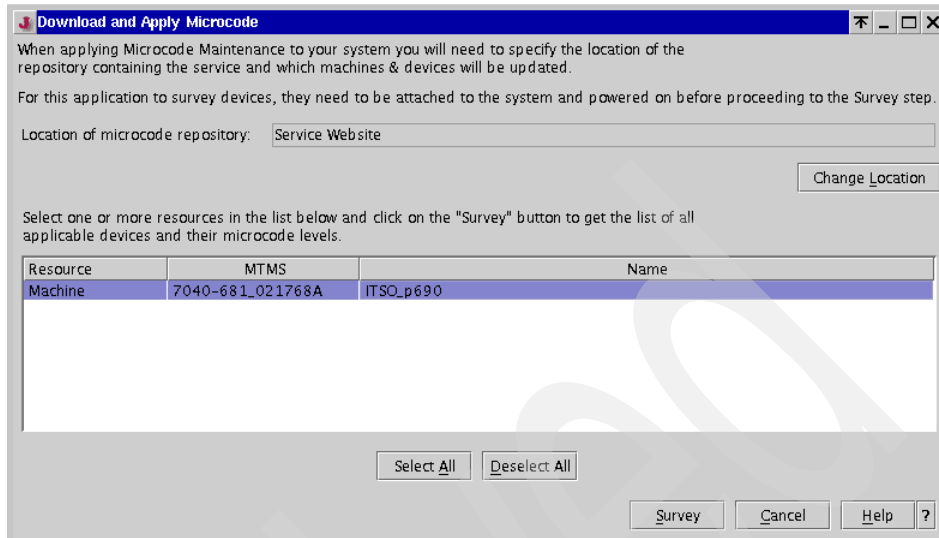
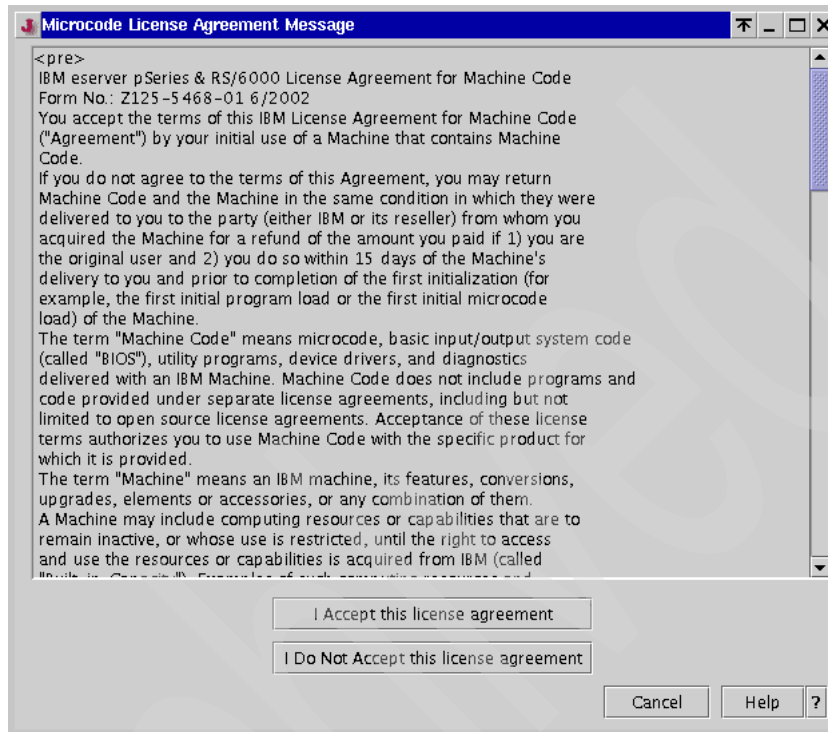

Figure 11-24 Download and Apply Microcode Updates
Figure 11-26 Microcode License Agreement Message
2. Select the Microcode Updates task in the Content area. The Download and Apply Microcode Update window opens as shown in Figure 11-24 on page 275.
(Figure 11-24 on page 275). The Microcode License Agreement Message window opens as shown in Figure 11-26.